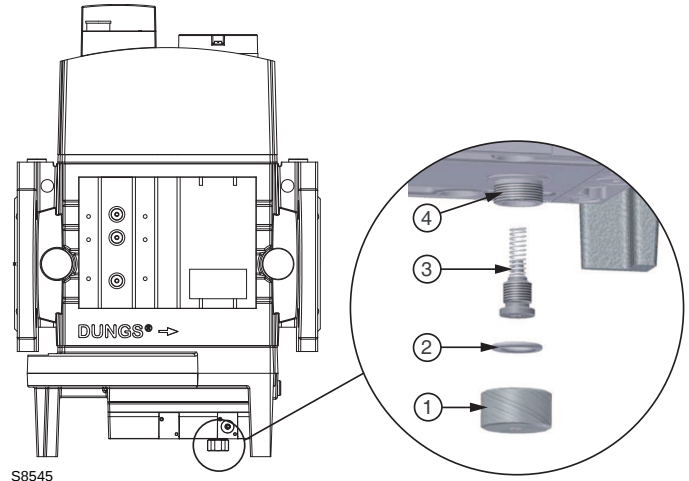

Fig. 10
If you need a different output pressure, you must order the appropriate spring (referring to those available as an accessory) and replace the original one as indicated in Fig. 10.
- Carefully loosen the protection plug 1)(Fig. 10) and check the gasket 2) is in good condition and firmly inserted in its seat
Key (Fig. 10)